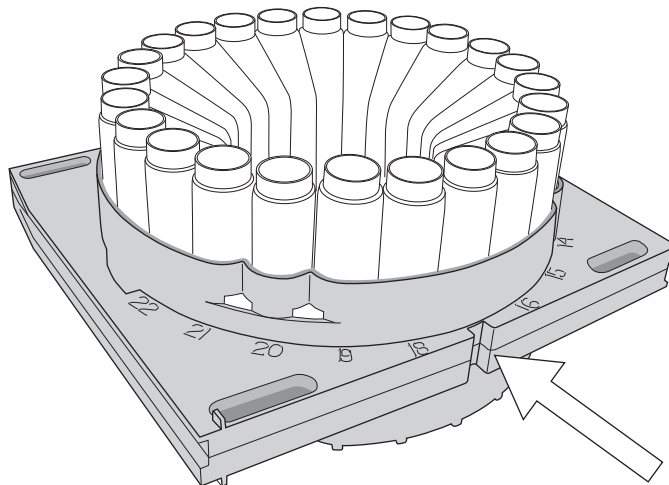

Figure 2-4 Insert the keyed end first so that it faces the back of the refrigerated compartment
1. Place the uncapped bottles in the rack (Figure 2-4).
3. Locate the back of the rack (arrow, Figure 2-4). This end has a notch that fits a key on the refrigerator's rear wall.